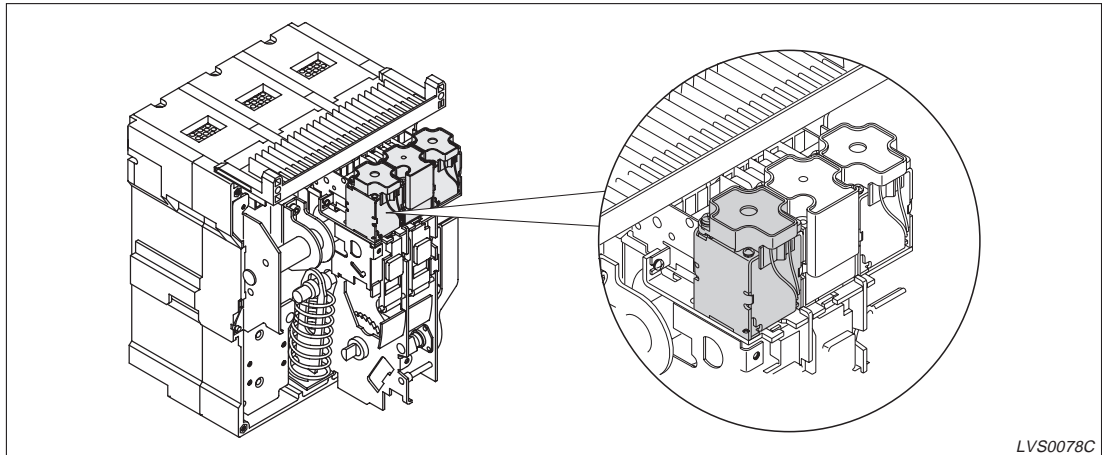

Fig. 4-8: Location of the shunt trip device
- ① Insert the connector securely (fig 4-8).